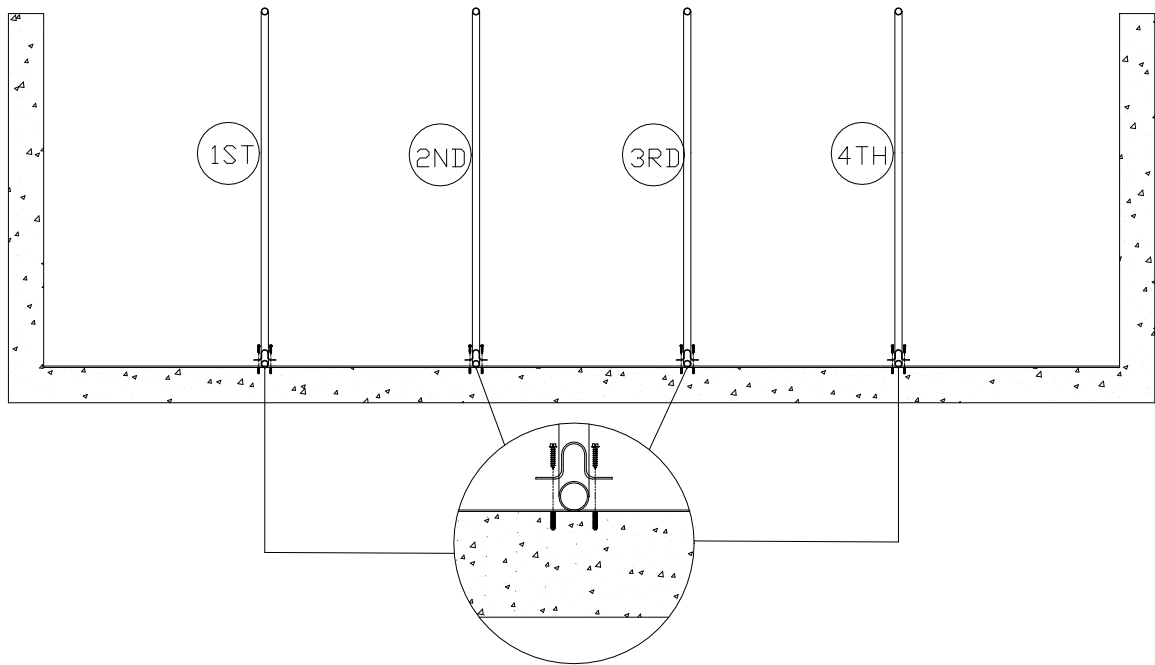

Figure 5
5. Starting from the point you selected in step B-1 place the first “outside division panel” on the corresponding “Sanislope Channel”. See Figure 5 for the sequence in which to assemble the
panels. Orient the first specified “division panel” against the wall as shown in the exploded view of Figure 5, so that it is centered under the mark applied in section B-4.
6. Using a level, plumb the panel by sliding the “Isolation Hangers” within the “Isolation Channel” as required. Push the panel tight against the wall. Using the “Wall Clamps” as a template, place one clamp at each tie location on the panel as shown in Figure 5 above. Mark the wall through each hole in the clamps. When all the holes are marked either set the panel aside or lean it to the side.